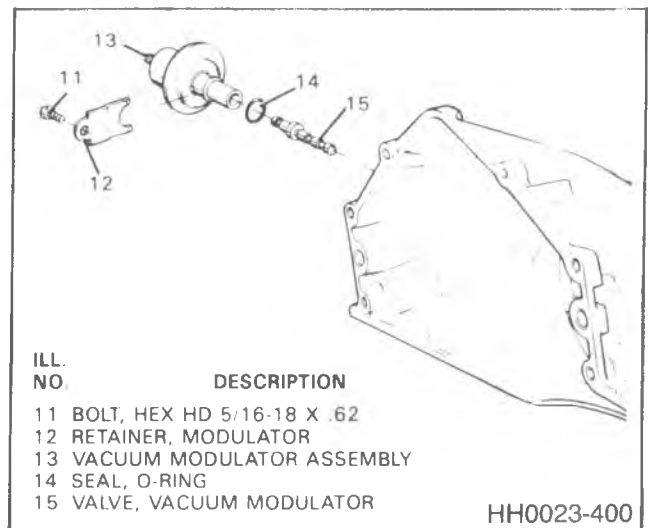

Figure 45 — Vacuum Modulator
↔ Remove or Disconnect (Figure 45)
2. Screw (11) (figure 45).
3. Retainer (12).
4. Vacuum modulator (13).
5. Vacuum modulator valve (15).
6. Seal (14).
↔ Install or Connect (Figure 45)